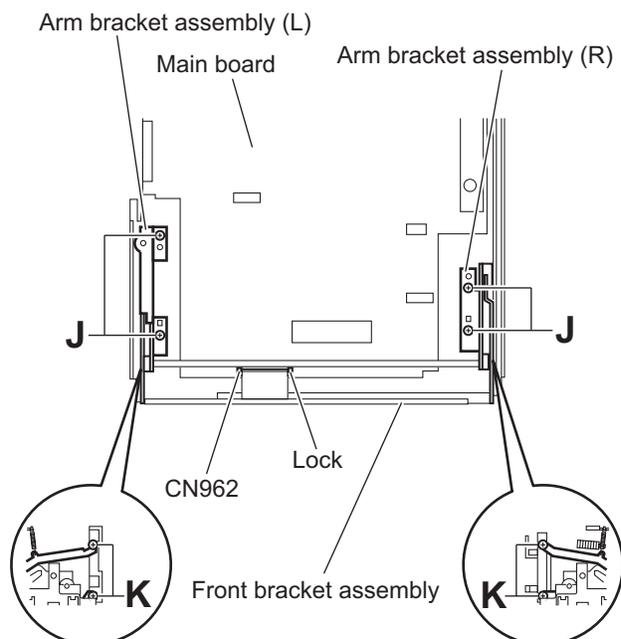

Fig.12
3.1.8 Removing the arm bracket assemblies (L)/(R) (See Fig.12)
- Remove the two screws **J** and screw **K** attaching the arm bracket assembly (L).
- Take out the arm bracket assembly (L).
- Remove the two screws **J** and screw **K** attaching the arm bracket assembly (R).
- Take out the arm bracket assembly (R).
3.1.9 Removing the front bracket assembly (See Fig.12.)